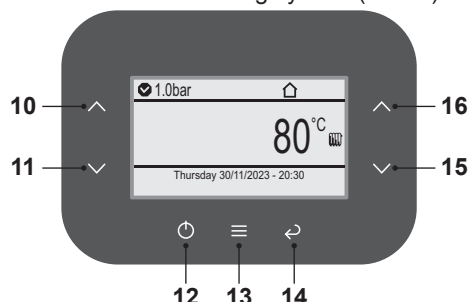

Fig. 2.21
- Press key 13 (Fig. 2.21) to access the main menu (Fig. 2.22).
- Press key 10 or 11 (Fig. 2.21) to select the
- Press key 13 (Fig. 2.21) to access the selected menu (Fig. 2.24).
- Press key 10 or 11 (Fig. 2.21) to select the day or group of days to be set (single day, Monday - Friday, Saturday - Sunday, Monday - Saturday, Monday - Sunday) (Fig. 2.25).
- Press key 15 or 16 (Fig. 2.21) to select the desired schedule (1 to 4) (Fig. 2.25).
- Press key 13 (Fig. 2.21) to confirm the change or key 14 to exit without changing
- Press key 13 (Fig. 2.21) to access the selected menu (Fig. 2.26).
- Press key 13 (Fig. 2.21) again to highlight the value to be changed (Fig. 2.27).
- Press key 15 or 16 (Fig. 2.21) to select the desired schedule (1 to 4) (Fig. 2.27).
- Press key 13 (Fig. 2.21) to confirm the change or key 14 to exit without changing the value (return to previous level).